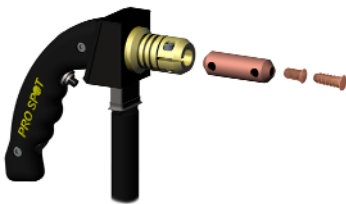

Figure 6.12
2. Fit Single Sided gun with the magnetic stud adapter (*fig. 6.12*).
3. Insert stud into the adapter (*fig. 6.12*).